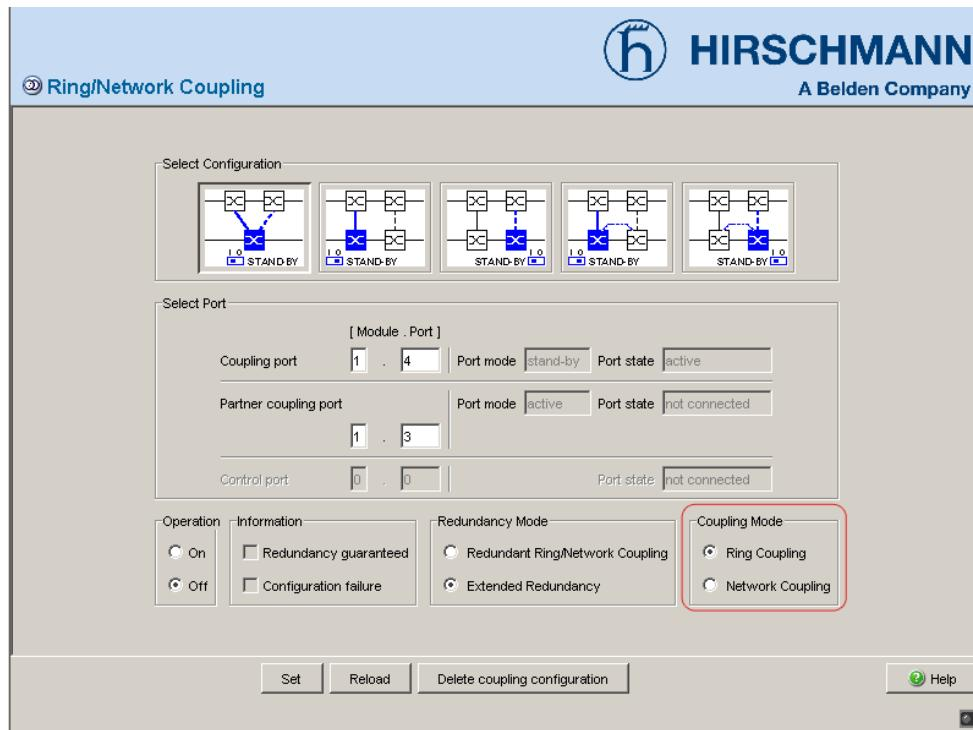

Figure 12: Selecting the coupling mode
- In the “Coupling Mode” frame, select (see fig. 12)